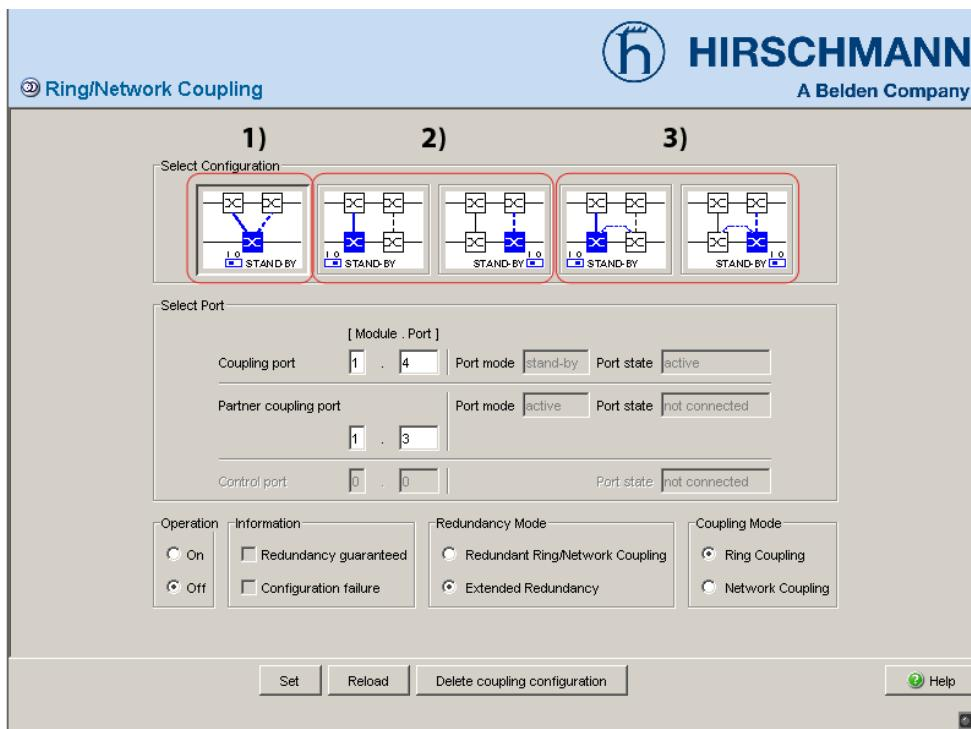

Figure 6: Selecting the configuration
- You first select the configuration you want: One-Switch coupling ("1"), two-Switch coupling ("2") or two-Switch coupling with control line ("3"), (see fig. 6).